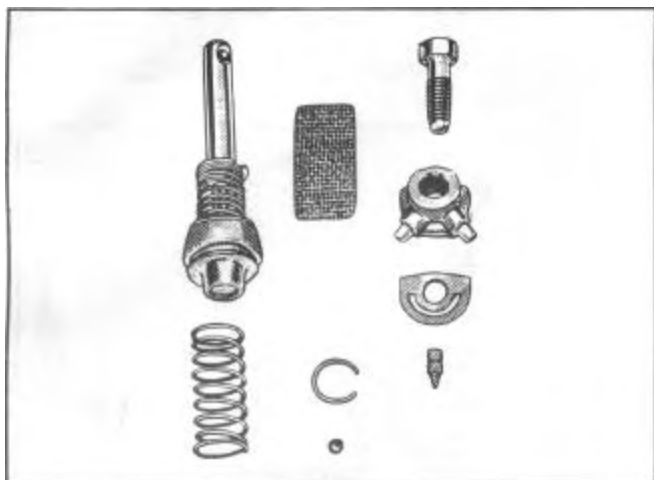

FIGURE 63
4. Group all parts controlling pump operation, Figure 63.